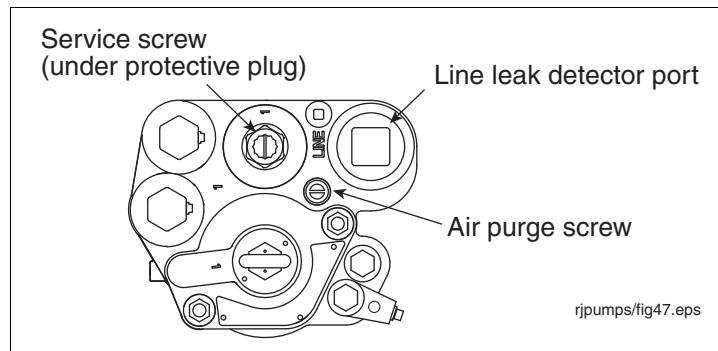

Figure 35. Locating Discharge Port Plug For Line Leak Transducer
2. Remove and save the protective plug over the service screw and turn the screw clockwise (see Figure 35). As the screw approaches its bottom position, you will hear the system depressurizing. Continue turning the screw until it can go no further. When the screw is all the way down, backoff the screw 4 turns to lift the check valve and let the fuel drain out of the manifold's hydraulic cavities.
6. Open the air purge screw 2 - 3 turns counterclockwise (see Figure 35).